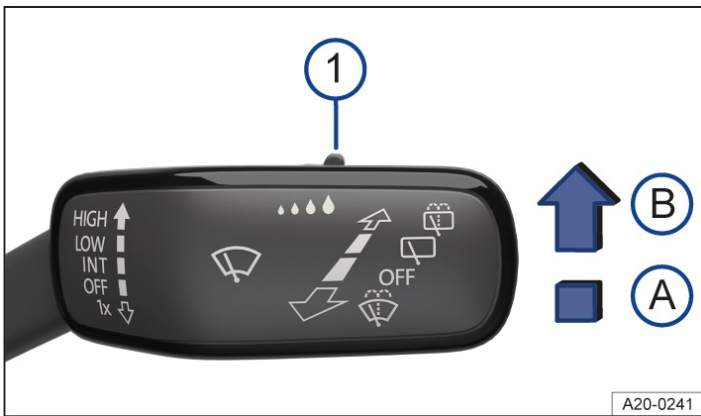

Fig. 1 On the right of the steering column: wiper lever.
1. Push the lever into the required position → *Fig. 1*.
The sensitivity of the rain and light sensor can be adjusted manually using the switch in the wiper lever → *Fig. 1* ①, → ⚠.